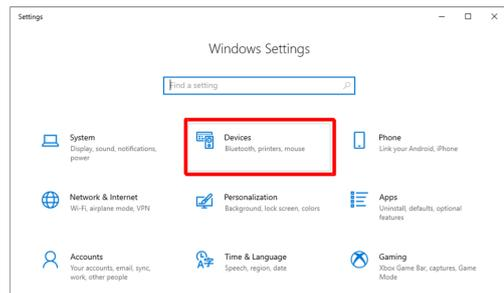

Figure 12: Click on Devices
2. Click on **Devices** – *Figure 12*.